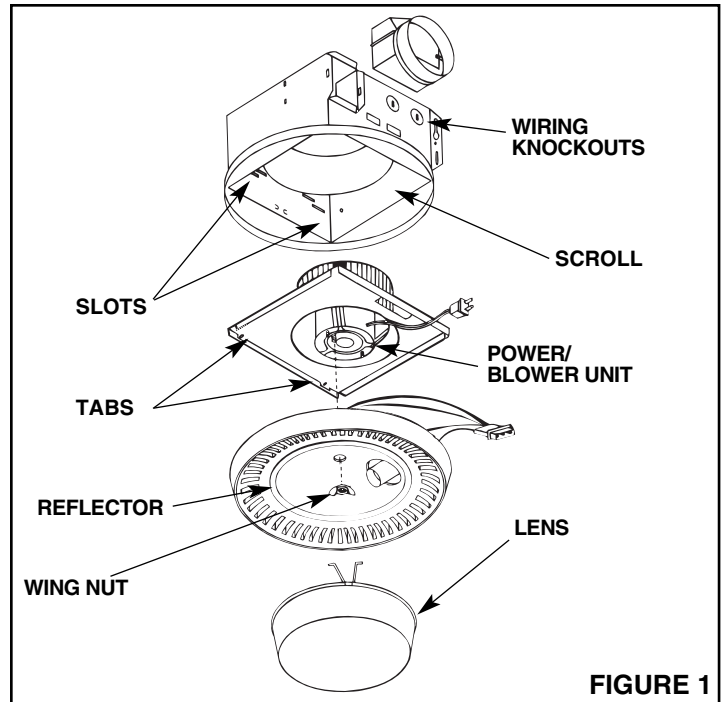

FIGURE 1
1. **Refer to Figure 1.** Remove power unit/blower assembly from housing.
1. **Refer to Figure 1.** Place duct collar over flanges at discharge opening of fan. Secure collar by snapping tabs into slots in flanges.
1. **Refer to Figure 1.** Place power/blower unit into housing so that mounting plate's tabs insert into slots in housing.